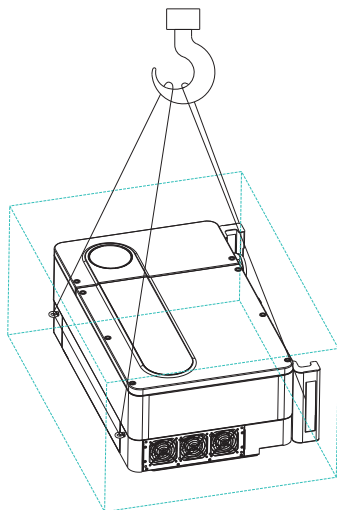

Fig 5.7
- 1>As shown in Fig5.7, use a rope to tie at ring and handle, lift the inverter from package and move to installation position.